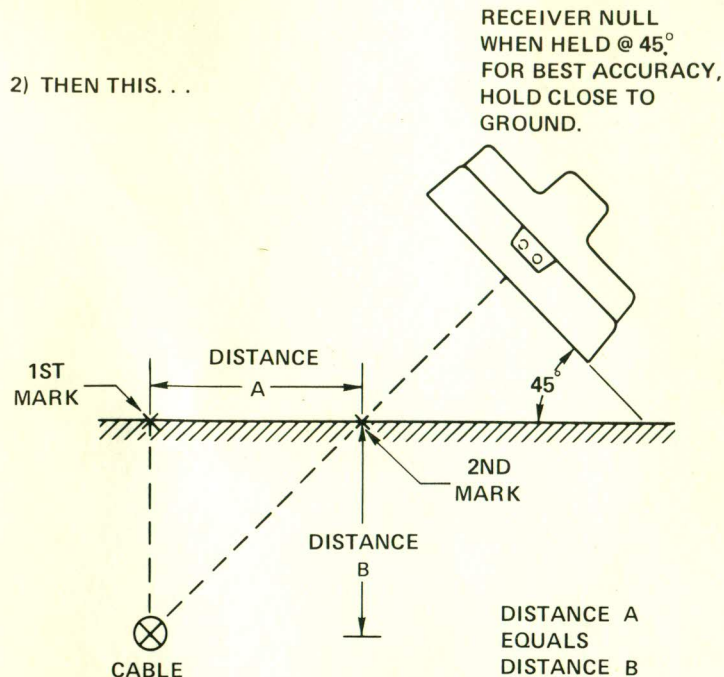

Figure 8. Cable Depth Location (Triangulation Method)
- 3) Hold the receiver so that the handle is PARALLEL to the cable path, and the bottom of the receiver is at 45 degrees relative to the ground. See Fig. 8.